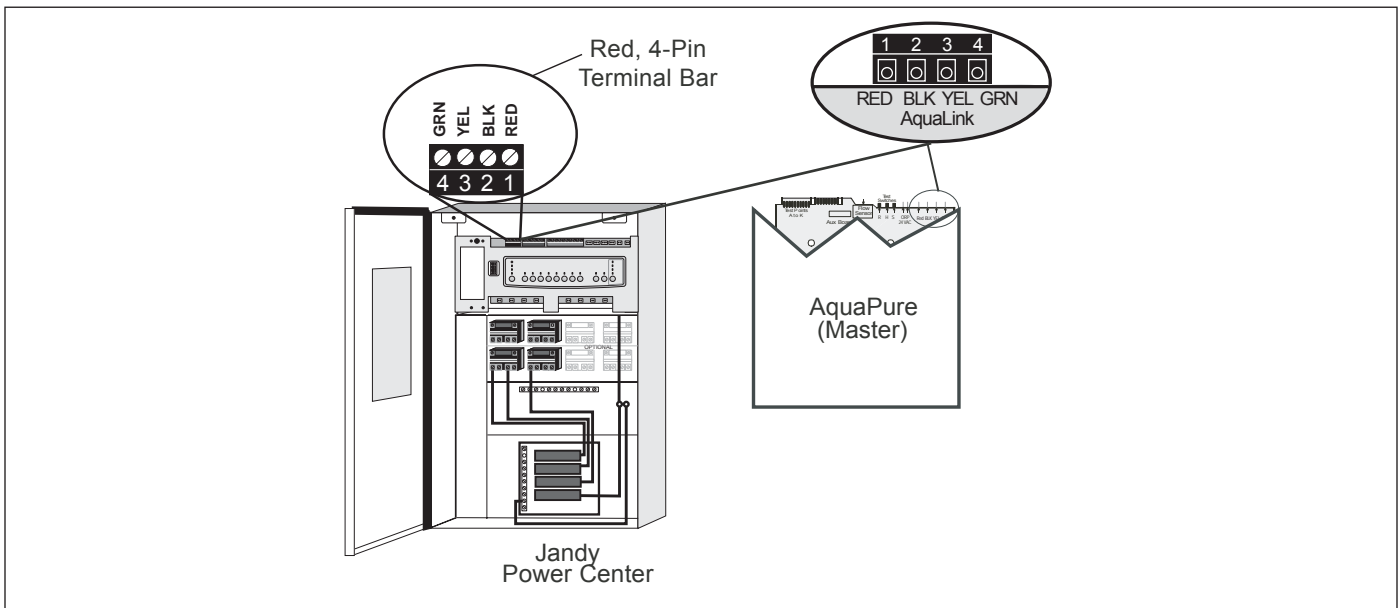

Figure 12. Wiring an AquaPure to an AquaLink RS Control System Network
The Jandy AquaLink RS and AquaPure use a four (4) wire connection to communicate and can be wired up to 500 feet apart. Any outdoor rated four (4) conductor cable, minimum 22 AWG, can be used. Locate the appropriate screw terminals on the circuit board according to Figure 12. Wire the AquaPure from the red 4-pin terminal bar to the AquaLink RS red 4-pin terminal bar (see Figure 12).
IMPORTANT Attach the AquaPure wires to the like-numbered screw terminals on both the AquaPure and AquaLink RS as shown in Figure 12.